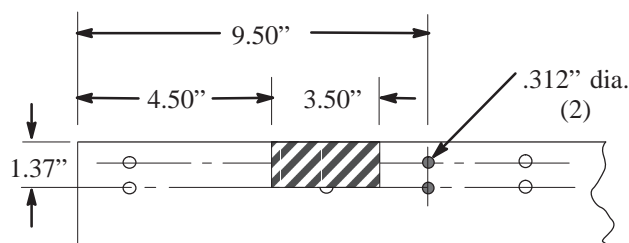
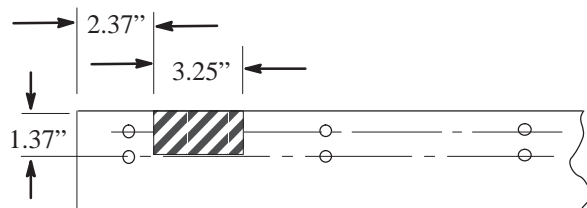

Figure 1
Figure 2
- Using dimensions shown in figure 1, locate, mark and cut slot and drill holes in wiper for deck **Model 30551**. Use dimensions in figure 2 to locate, mark and cut slot in wiper for deck **Model 30553**. Note position of wiper and holes.